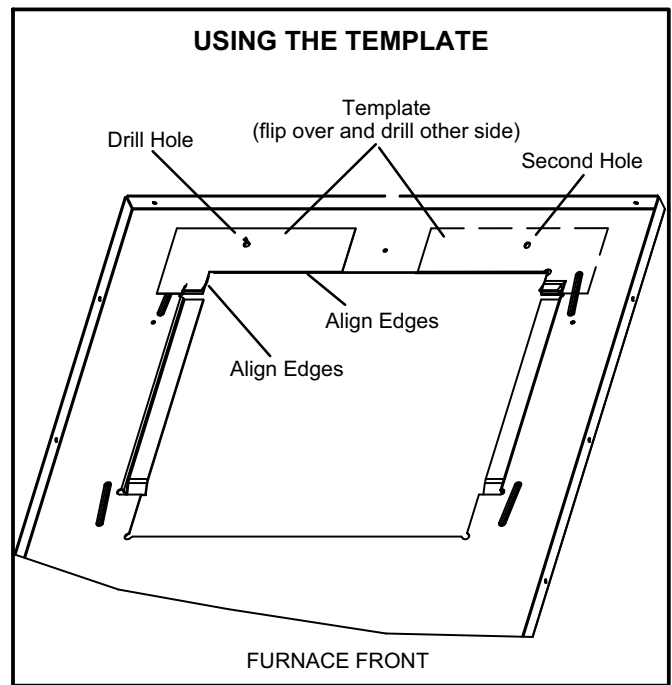

FIGURE 3
- 22 - Align template with the blower deck cutout as shown in figure 3. If necessary drill a 3/16" diameter clearance hole. Flip the template around and drill another hole of same size on other side of blower deck. See figure 3.